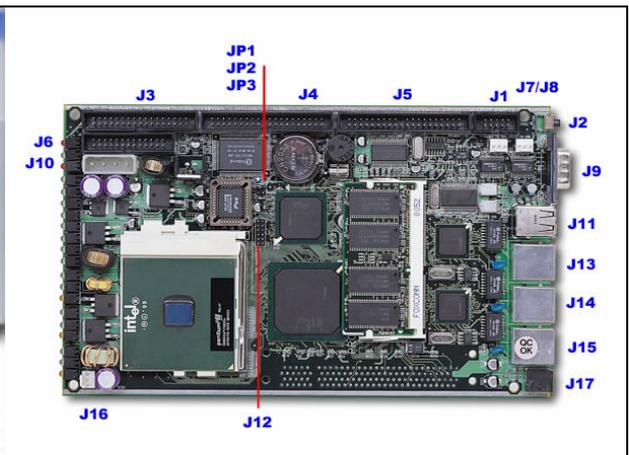

*Fig. 2-41 Place the back panel in position*
9. Push the back panel till it clips (*Fig. 2-41*). Then place both COM port bolts back (*Fig. 2-41*).